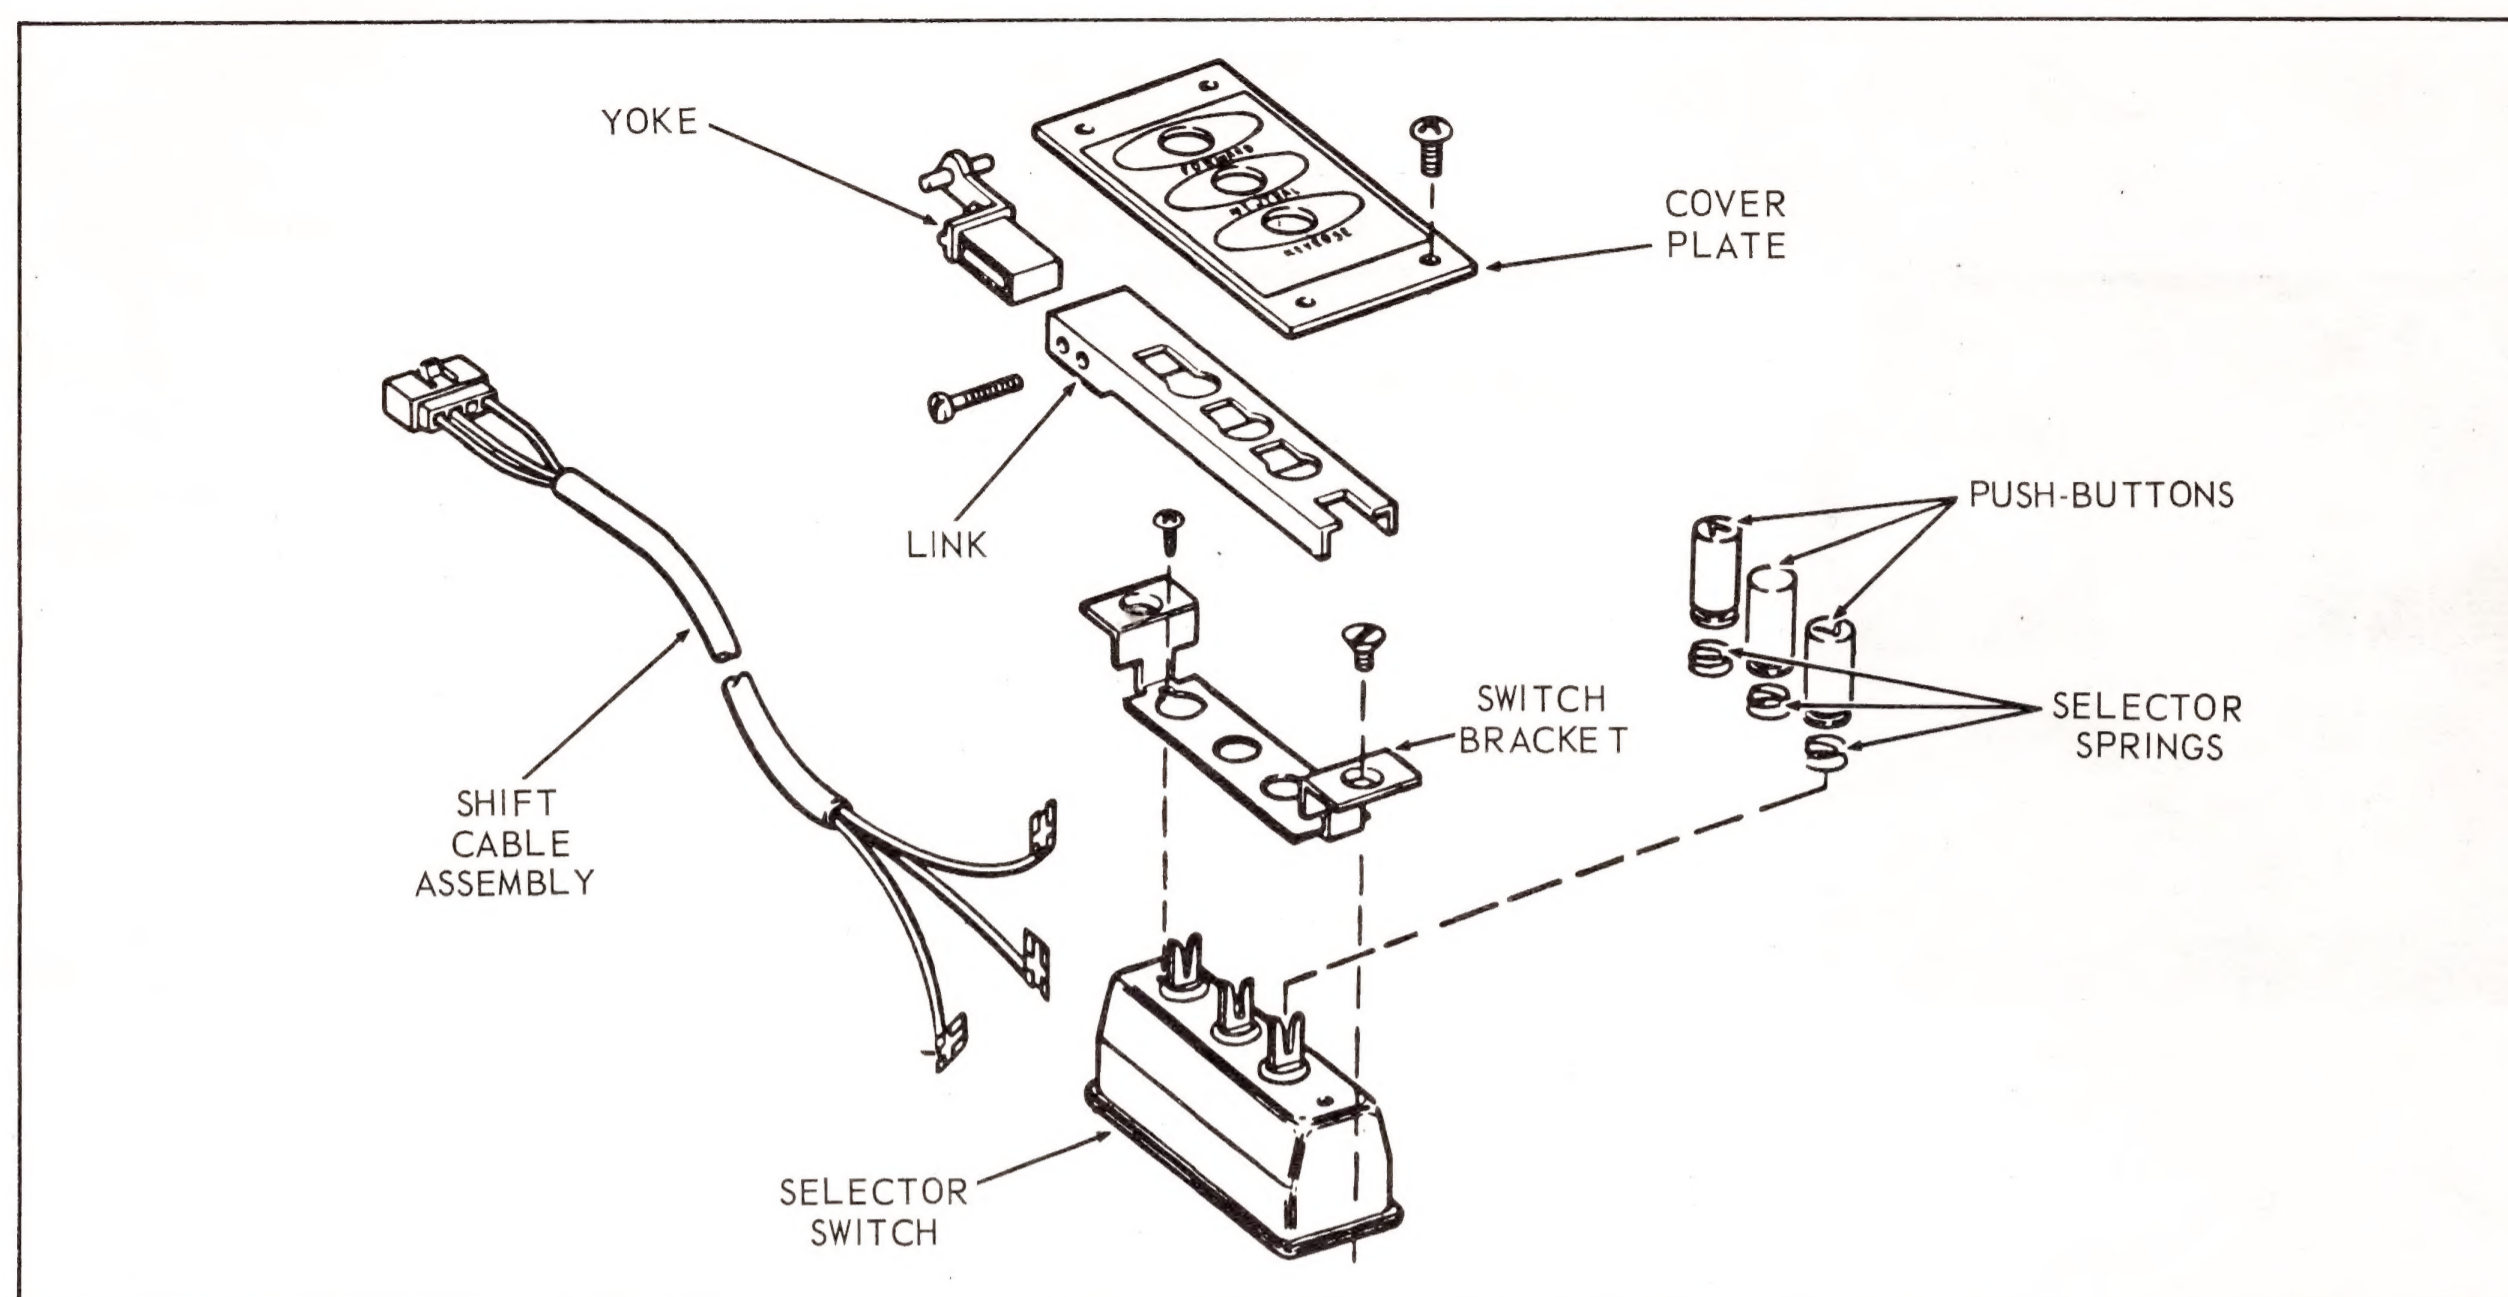

Figure 8-3. Assembly View - Selector Switch
- f. Remove two screws attaching selector switch bracket to housing. Lift switch from housing. See Figure 8-3.